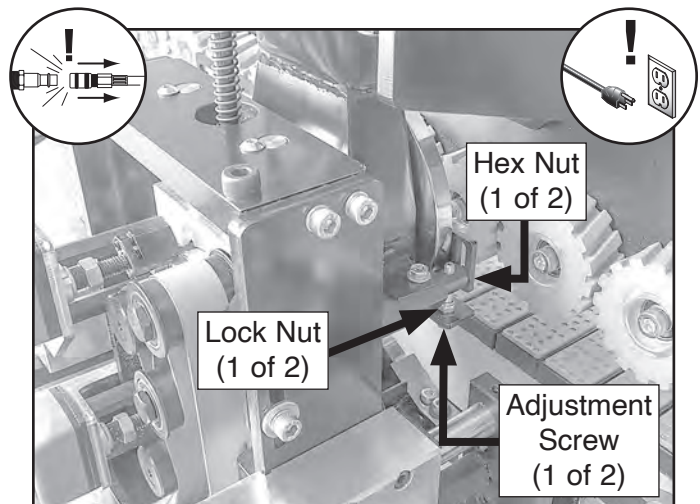

Figure 112. Location of flush trimmer adjustment components.
4. Loosen (2) adjustment bolt lock nuts and (2) mounting plate hex nuts (see **Figure 112**).